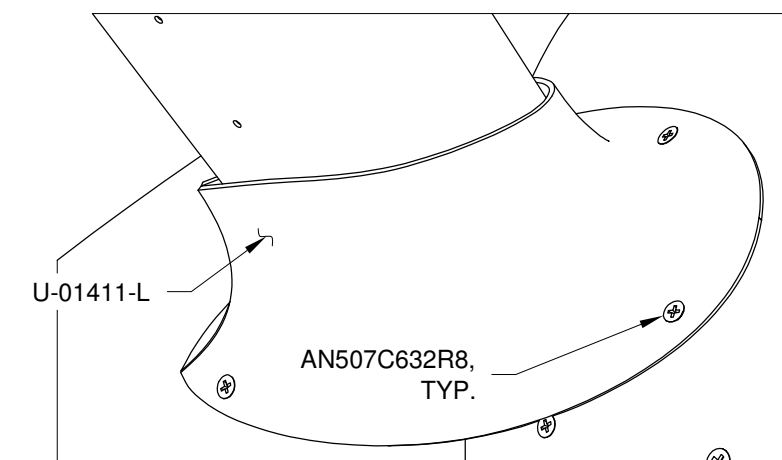

FIGURE 6: LOWER INTERSECTION FAIRING INSTALLATION
Step 7: Install the U-01411-L & -R Lower Intersection Fairings with the hardware called out in Figure 6.